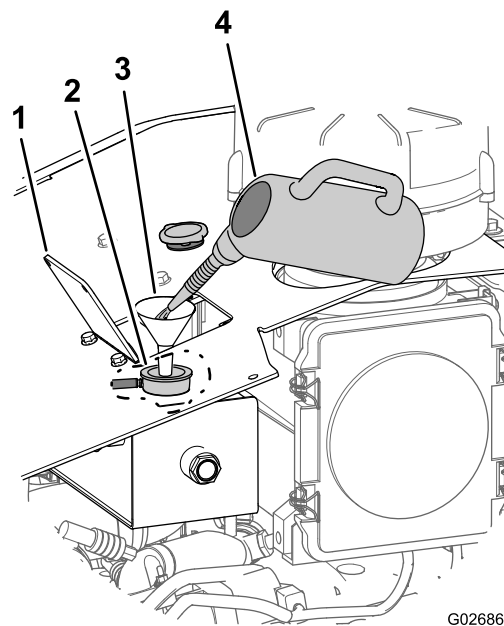

Figure 102
- B. Add a cooling system cleaning solution to the to the cooling system through the filler neck of the recovery tank (Figure 102).